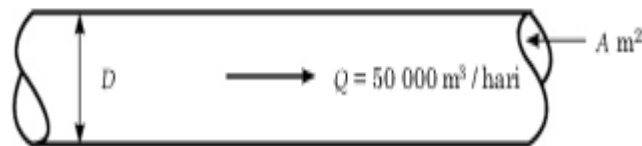

Figure A1(a) / Rajah A1(a)
- CLO2 (a) Identify the diameter of pipe with water flow rate of 50,000 m3/day at a velocity of 5 m/s. (refer figure A1(a)).